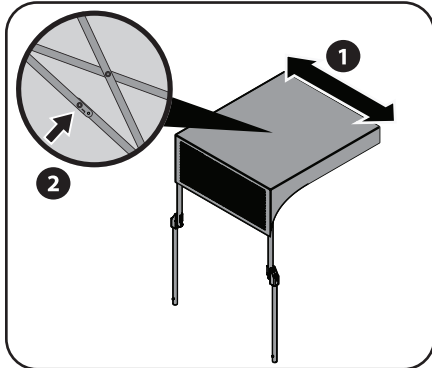

Figure 3-12
2. Pull sun shade horizontally to expand. Lock mechanism on the underside of the sun shade as shown in Figure 3-12.